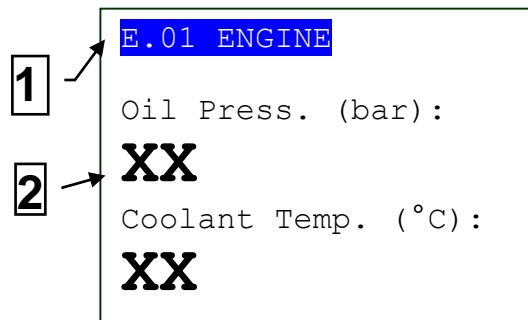

Fig. 3 - Display areas
5.6.4 Display area layout (ref. to fig. 3)